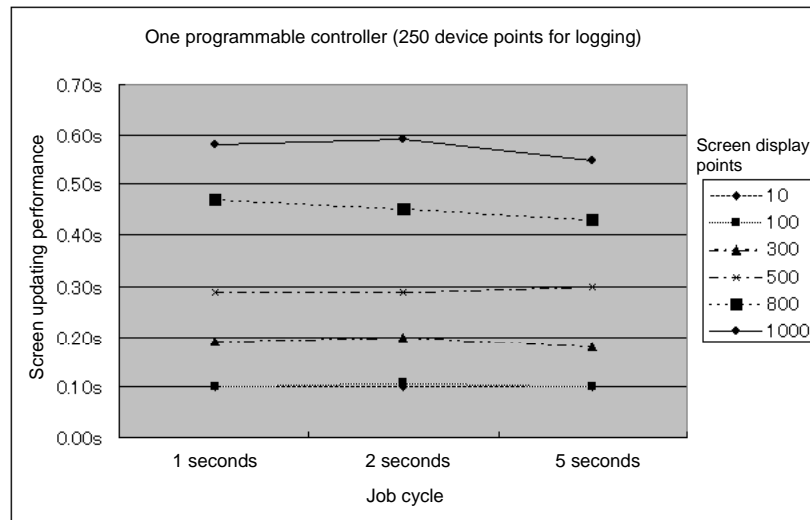

Figure 5 Screen updating performance for one programmable controller (250 device points for logging)
- As shown in Figure 5, the screen updating performance is approximately the same regardless of the “job trigger conditions (cycle)” interval, and is not affected by the job cycle value.
(2) Screen switching performance